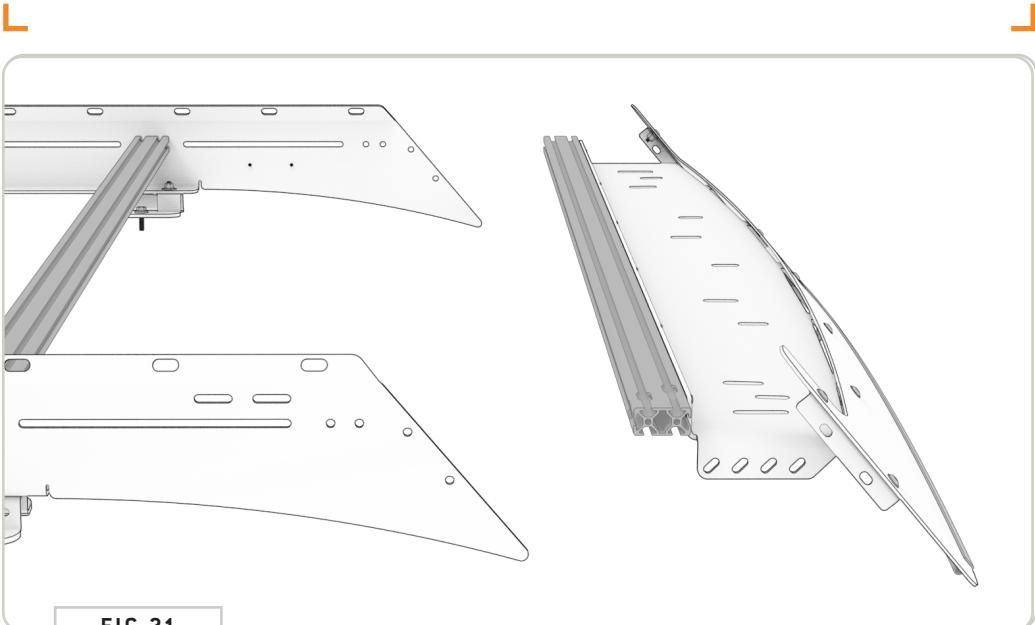

FIG 21
6.1 Install Fairing: With help, lift the **Fairing Assembly** up to the front of your **Roof Rack** and gently lay it down on a soft surface (**FIG 21**).